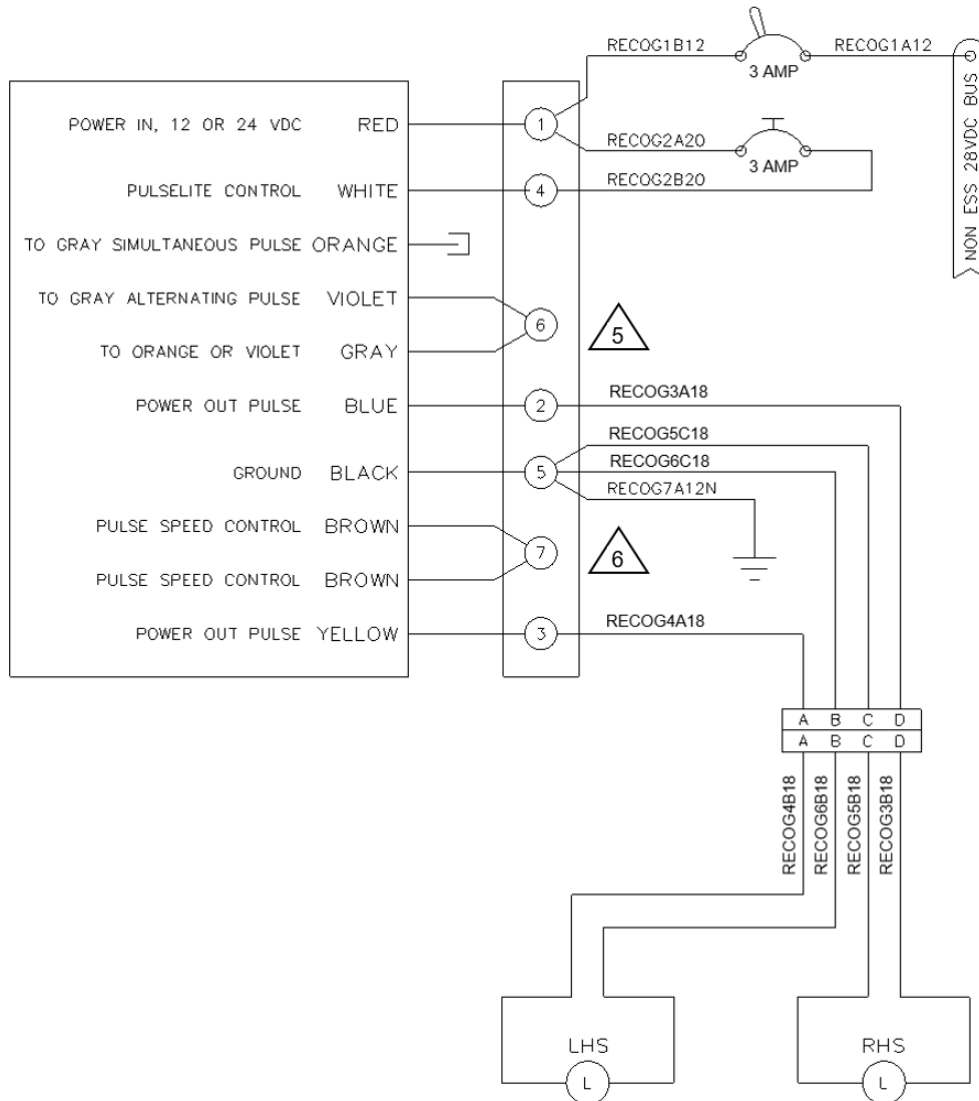

Figure 11
23. Wire the Toggle Switch (Item 55) and pulse control to the aircraft. Reference Figure 11.